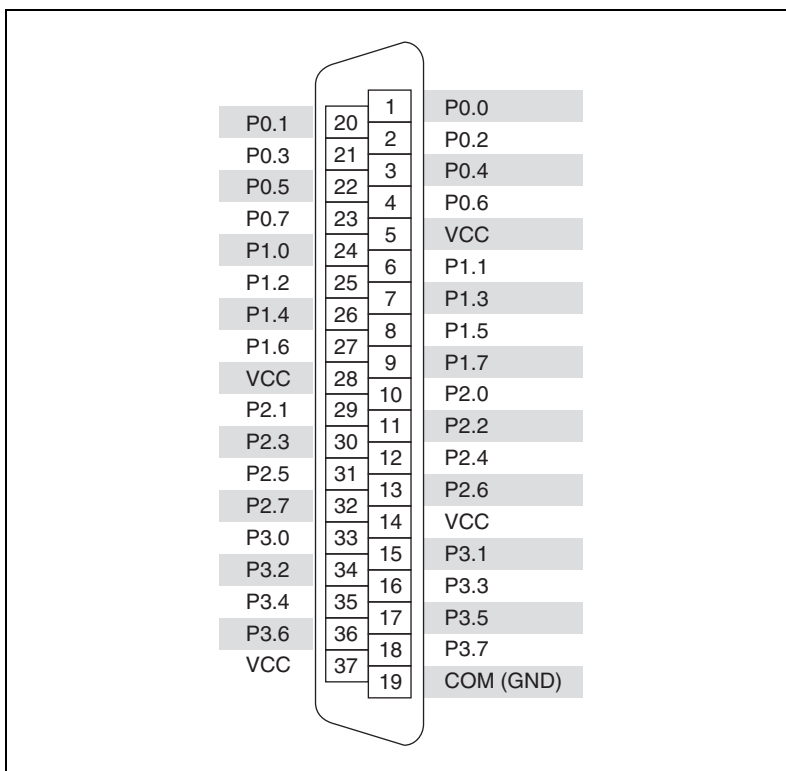

Figure 3-12. NI 6516 Pin Assignments
Figure 3-12 shows the pin assignments for the SH37F-37M cable when connecting to the NI 6516 device. The naming convention for each pin is PX.Y, where X is the port (P) number, and Y is the line number or name.